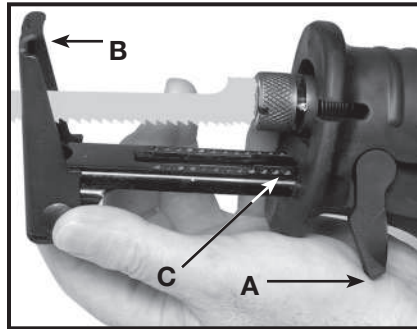
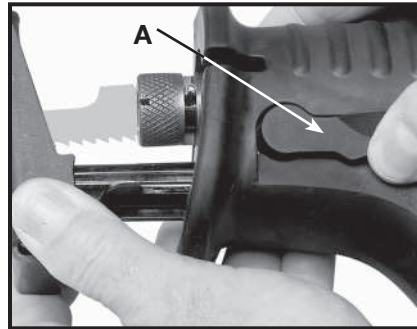

Fig. 12B
Fig. 12C
2. The **Models 746 and 748** are supplied with a keyless *Quik-Change*[™] pivoting guide shoe. To adjust, rotate lever (A) Fig. 12B. releasing the pivoting guide shoe (B). Adjust to desired position and close lever (A) Fig. 12C. The keyless *Quik-Change*[™] pivoting guide shoe is designed with a raised lip (C) at the end that prevents the guide shoe from locking in position if it is extended out too far. After adjusting, make sure the locking lever is completely closed in the locked position (A) Fig. 12C.